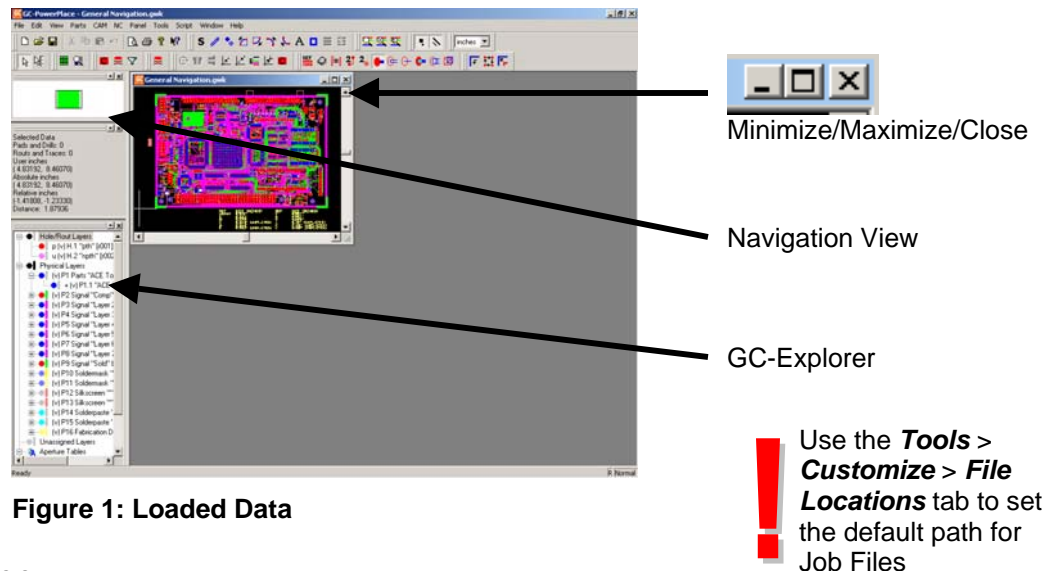

Figure 1: Loaded Data
A graphical representation of the physical board appears on screen (see Figure 1).
1. Figure 1 highlights Navigation view. This window gives a bird's eye view of the current graphical display with reference to the data extents.